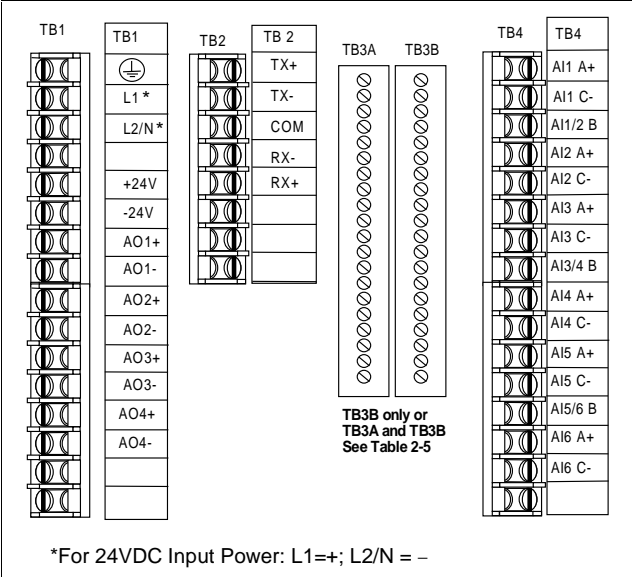
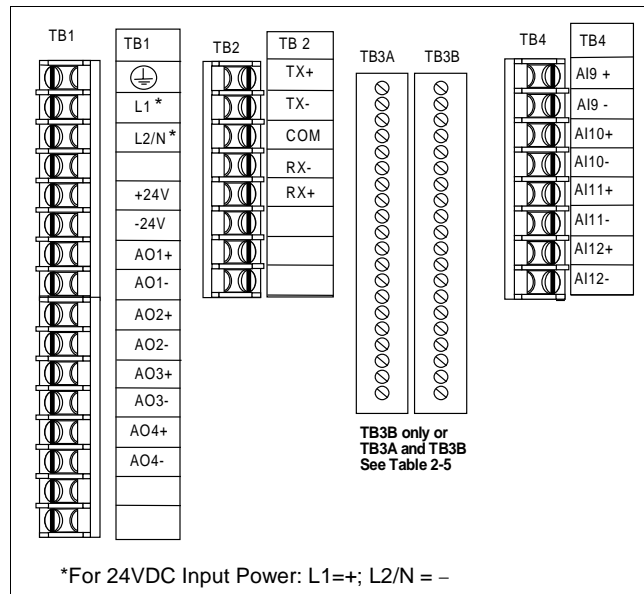

Figure 2-4 Terminal Connections (TB3A & TB3B)
Figure 2-5 Terminal Connections (TB3A &amp; TB3B)
Your instrument has the terminals shown in either Figure 2-3, Figure 2-4 or Figure 2-5.
Make all connections at the terminals outside the case as shown in Figure 2-3 through Figure 2-5 and Table 2-4 through Table 2-6. Do not run low level signal leads close to or parallel with line voltage leads or other power leads, in order to avoid electrical interference with signals.
See Table 1-1 Specifications for acceptable voltage and current signal inputs. Connect current and voltage inputs to the appropriately labeled terminals as in Figure 2-5.
2. When required, current shunts are mounted on these terminals, see Figure 2-5. Use Part No. 311285 for 4-20 mA input conversion to 1-5 V.